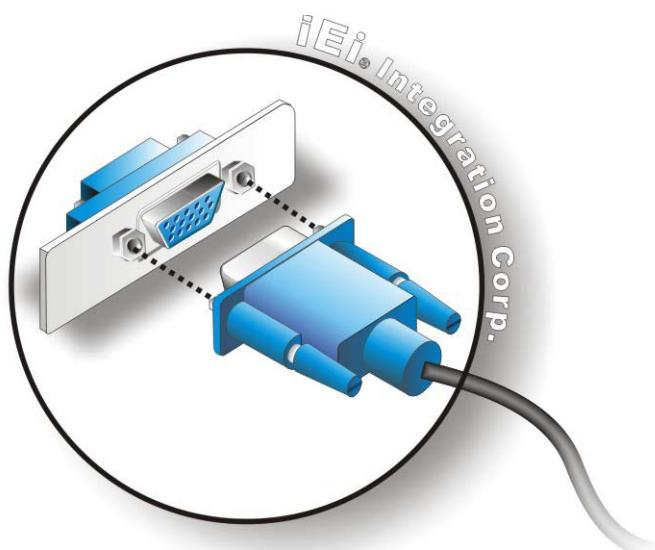

Figure 3-21: VGA Connector
Step 3: Insert the VGA connector. Once the connectors are properly aligned with the insert the male connector from the VGA screen into the female connector on the TANK-610-BW. See Figure 3-21.